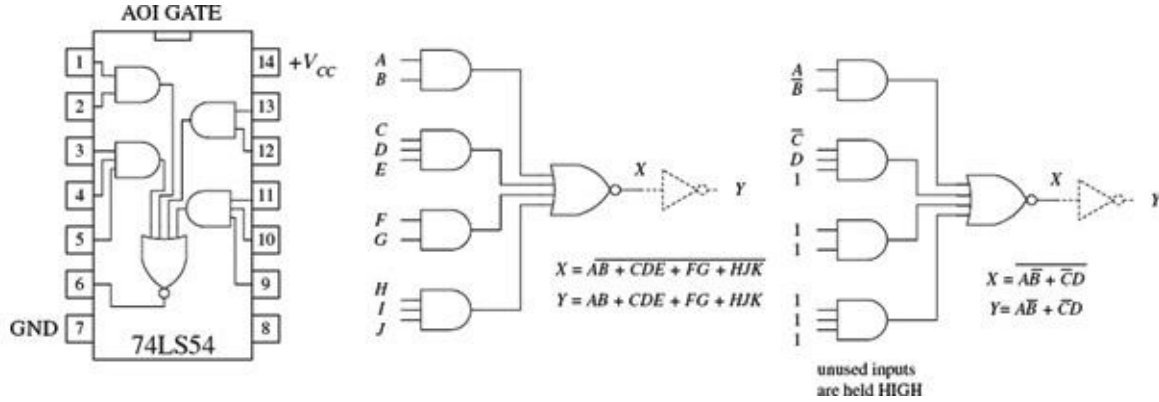
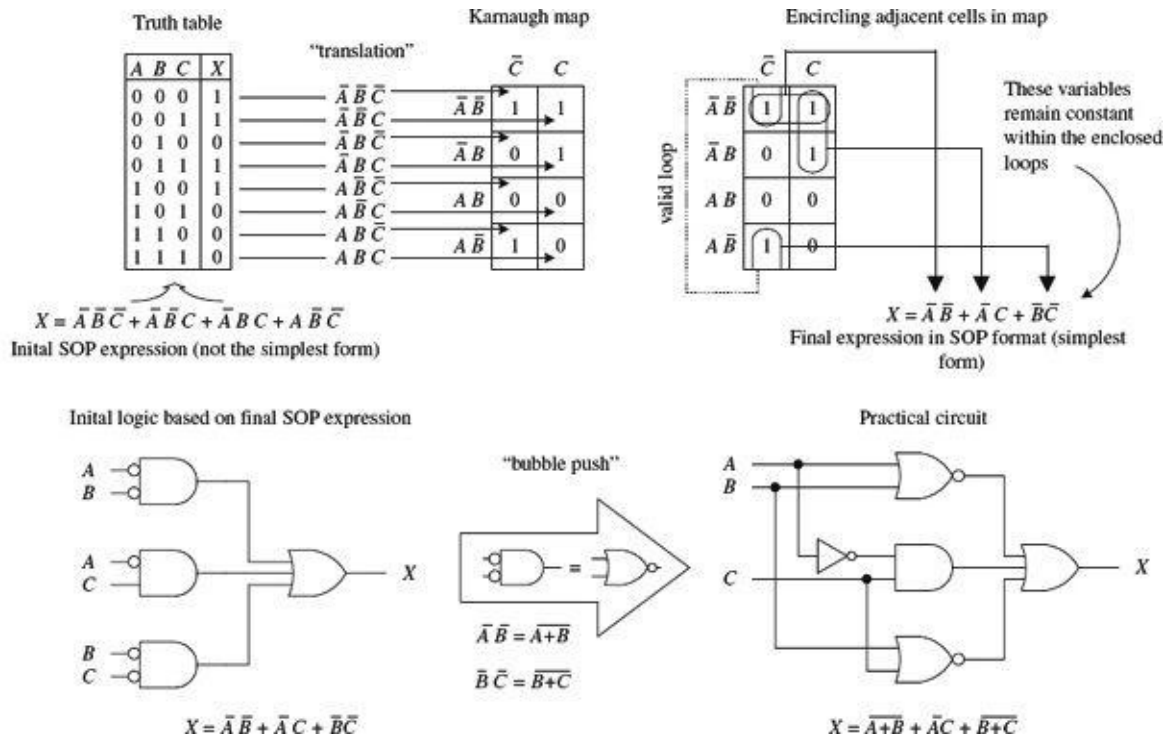

FIGURE 12.26
FIGURE 12.27
A more down-to-earth reason for using an SOP design has to do with the fact that special ICs called AND-OR-INVERTER (AOI) gates are designed to handle SOP expressions. For example, the 74LS54 AOI IC shown in Fig. 12.26 creates an inverted SOP expression at its output, via two two-input AND gates and two three-input AND gates NOR'ed together. A NOT gate can be attached to the output to get rid of the inversion bar, if desired. If specific inputs are not used, they should be held high, as shown in the example circuit in Fig. 12.26. AOI ICs come in many different configurations—check out the catalogs to see what's available.
1. Select a desired truth table. Let's choose the one shown in Fig. 12.27. (If you have only a Boolean expression, transform it into an SOP expression and use the SOP expression to create the truth table; refer to Fig. 12.26 to figure out how this is done.)
2. Translate the truth table into a Karnaugh map. A Karnaugh map is similar to a truth table but has its variables represented along two axes. Translating the truth table into a Karnaugh map reduces the number of 1s and 0s needed to present the information. Figure 12.27 shows how the translation is carried out.
4. Identify the variables that remain constant within each loop, and write out an SOP equation by OR'ing these variables together. Here, *constant* means that a variable and its inverse are not present together within the loop. For example, the top horizontal loop in Fig. 12.27 yields $\bar{A}\bar{B}$ (the first term in the SOP expression), since \bar{A} 's and \bar{B} 's inverses (A and B) are not present. However, the C variable is omitted from this term because C and \bar{C} are both present.